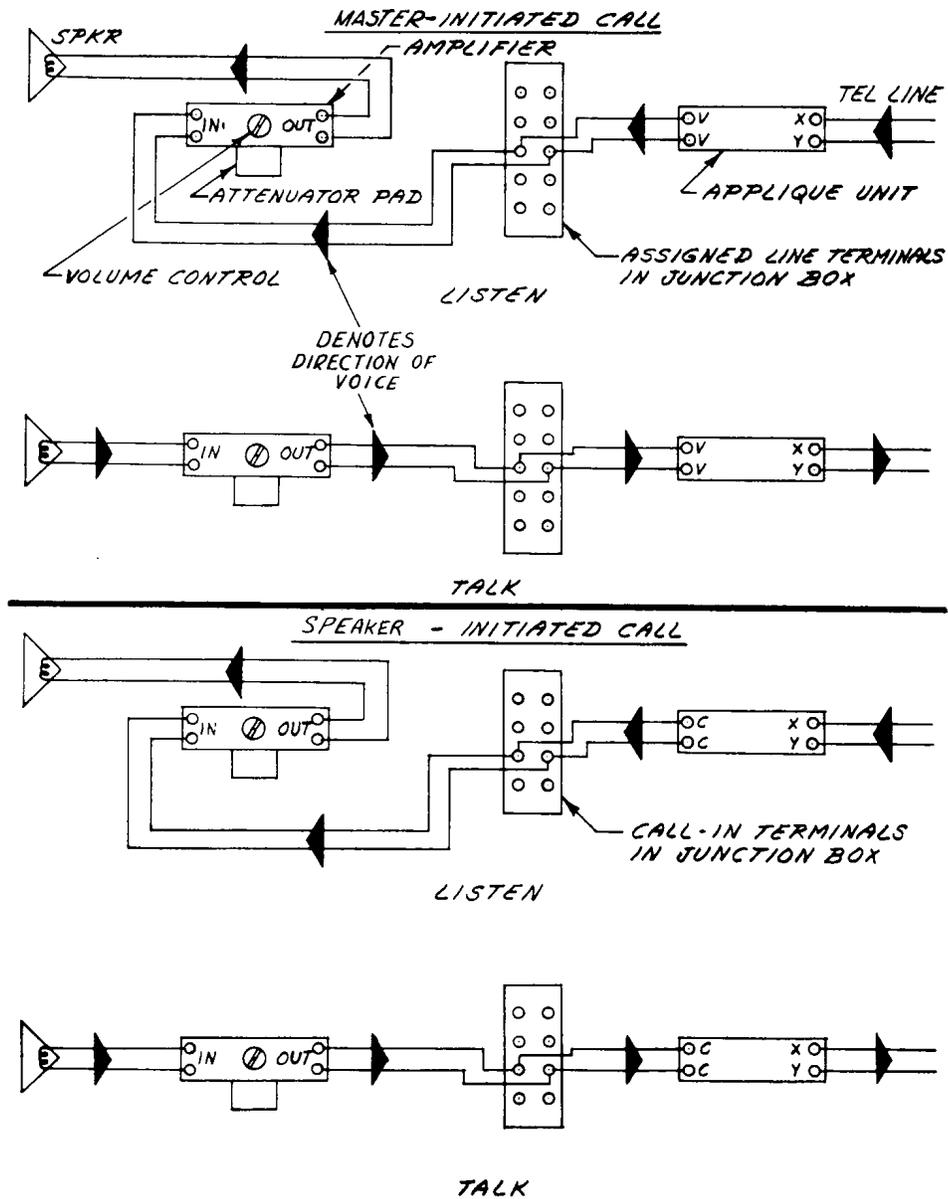

FIG. 14 - Zero-Level Operation
- Figure 14 - Zero-Level Operation